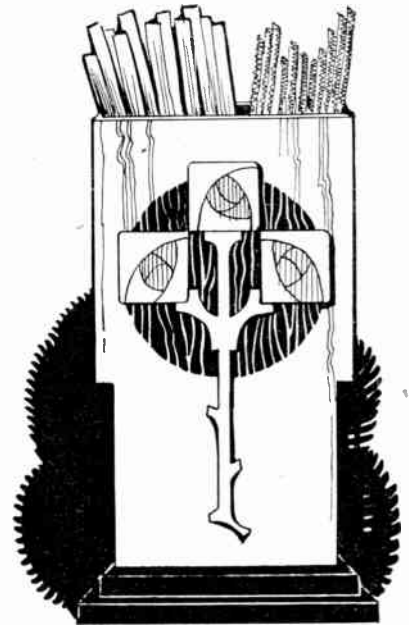
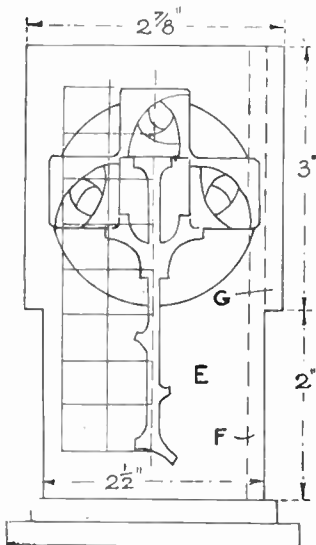

Fig. 4—The second holder
Fig. 5—Dimensions of the second design
The second design, that shown in Fig. 4, consists of a plain upright box made up of two pieces (E) and two pieces (F)—see the front view Fig. 5 and the sectional detail Fig. 6. In the latter diagram can be seen the simple construction, while Fig. 5 gives the necessary measurements.
The side faces of the box should be glasspapered clean and then some thought given to the overlay on the front. There are one or two ways of carrying out a good colour scheme. An attractive one would be an inlay in, say, three woods, the darkened parts shown in the sketch Fig. 4, giving a clue as to the shade or colour. To do this, an enlargement must first be made from the squared half of the design in Fig. 5. The squares here are shown to scale  $\frac{1}{2}$  in. and, therefore, sixteen  $\frac{1}{4}$  in. squares must be drawn on a paper pattern, and the completed outline made by transferring the half design to the other side